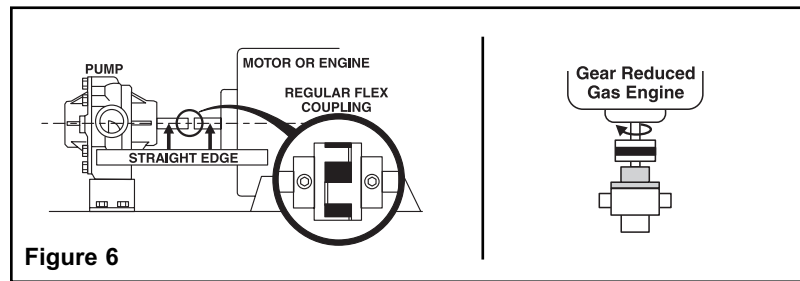

Figure 6
When direct driving Hypro roller pumps with flexible couplings, make sure that the speed (rpm) of the gas engine or electric motor is within the maximum rated rpm of your pump (see performance tables). Also make sure that shaft rotation is correct between the pump and the motor or gas engine (see Figure 6).
2. Line up pump shaft with straight edge as shown in Figure 6 to assure they are aligned. Shim pump, if necessary, to match shaft height of engine or motor. Shaft ends should not touch.